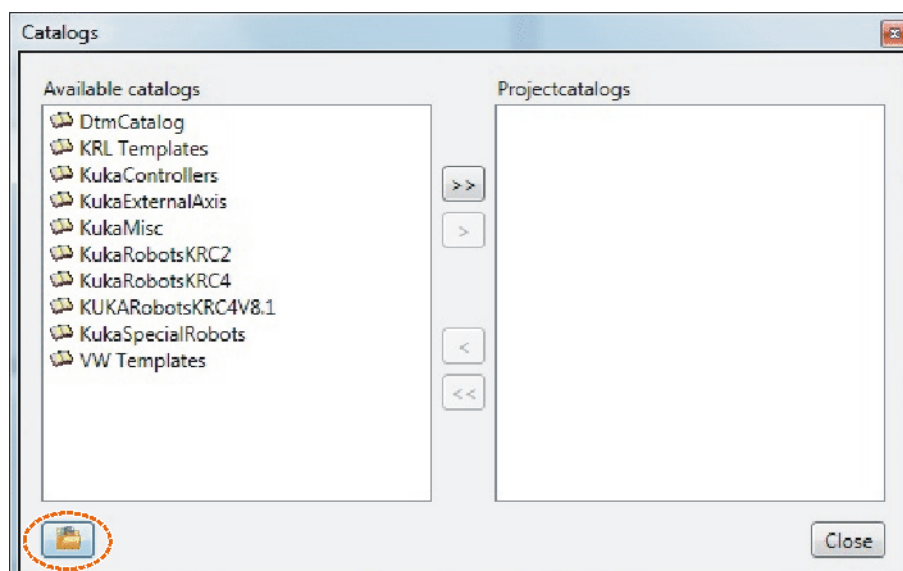

Fig. 6-5: Searching for catalog element
5. Browse for the CNC catalog element using the **folder** button (>>> Fig. 6-5).